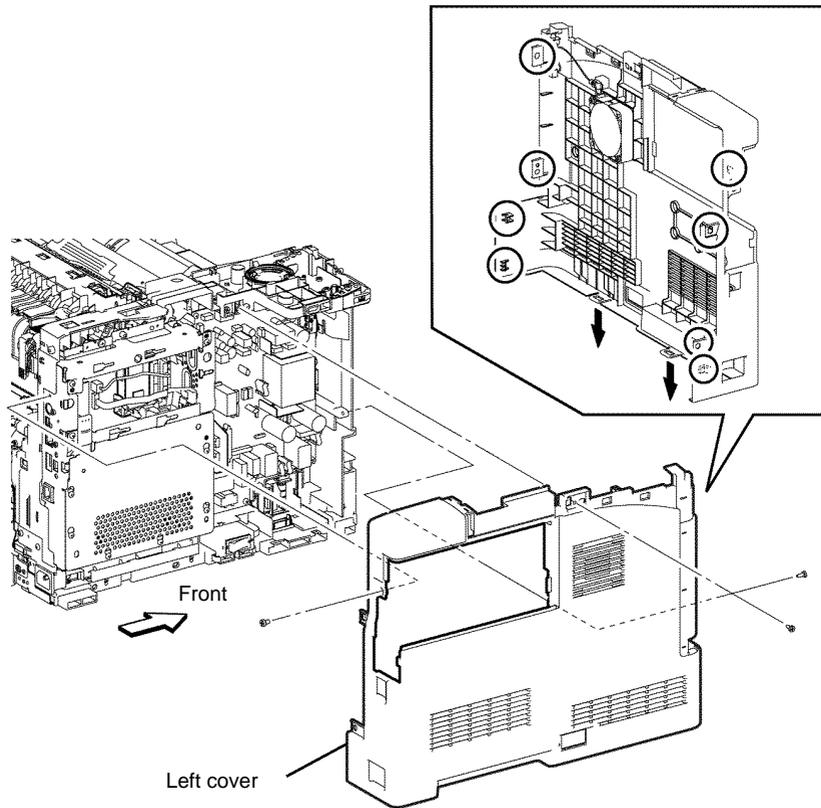

Figure 1 Left cover removal
10. Remove two screws (silver, tapping, 8mm) and one screw (silver, M4, 6mm) that fix the left cover. Release four holes from the bosses on the frame. Release two hooks, then remove the left cover, Figure 1.
11. Disconnect PJ241 from the LVPS PWB, then release the harness clamp from the printer, Figure 1.